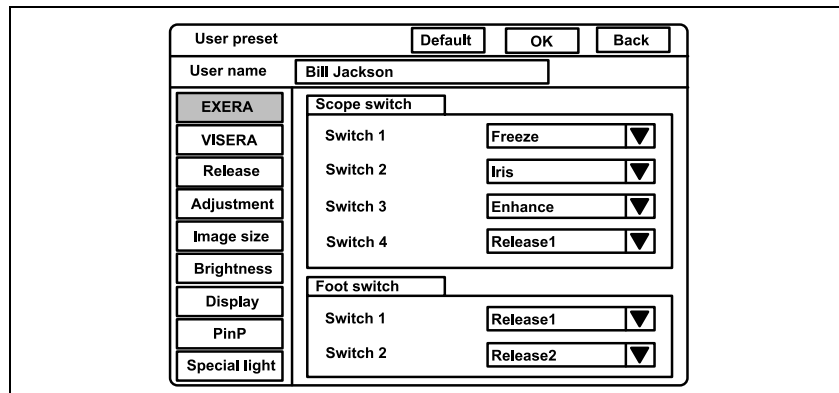

Figure 9.16
2. Click “▼” of “Scope switch” or “Foot switch” (see Figure 9.16). The available functions appear in the pull-down menu.